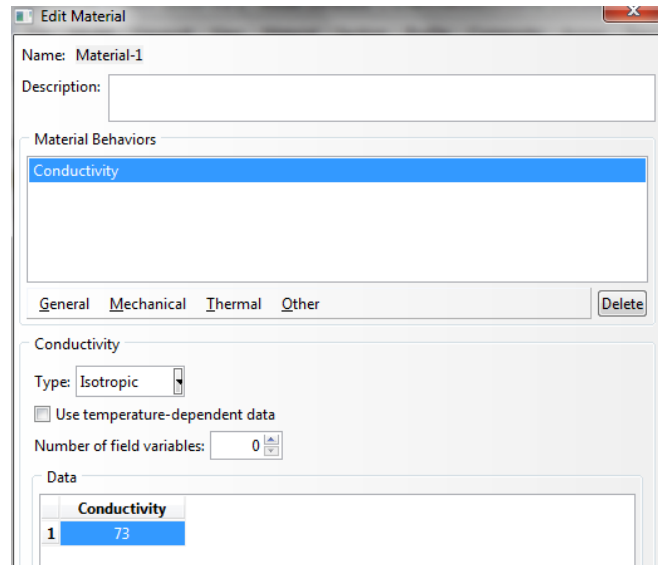

Figure 4
- Double click on Material and input 73 as the conductivity as shown in figure 4. Call the Material, Material-1